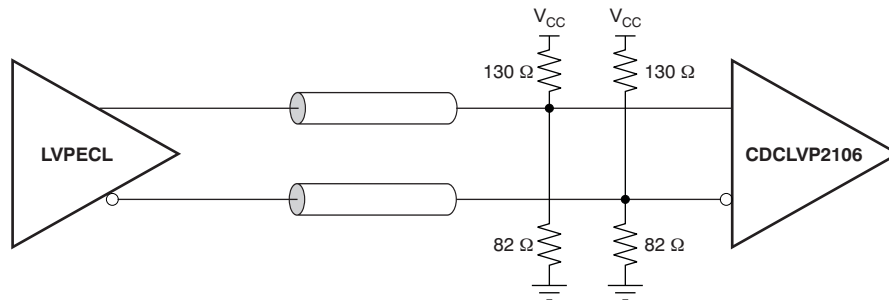

Figure 7. DC-Coupled LVPECL Input During Device Test
(1) Figure 7 and Figure 8 show DC test setup. Figure 9 shows AC test setup.